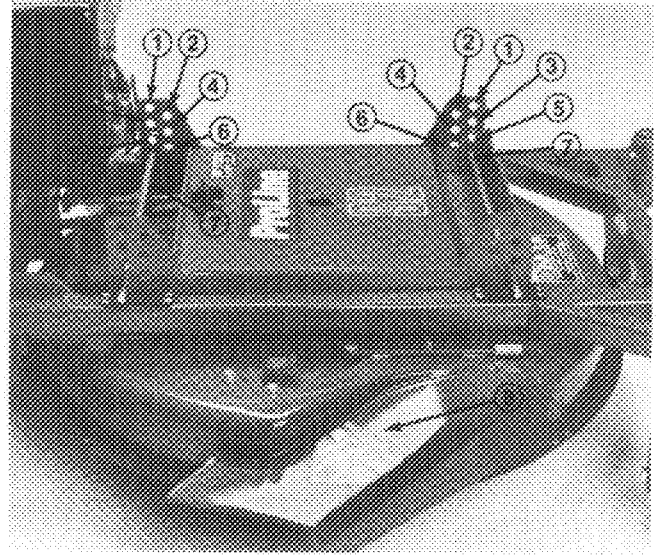

Figure 5
The height-of-cut is adjustable from 1 to 4 inches (25 to 102 mm) in 1/2 inch (13 mm) increments by relocating support rods in different hole locations in brackets at each corner of the cutting unit (Fig. 5).
1. Remove (4) hair pin cotters securing support rods in brackets (Fig. 5).
The grass deflector (Fig. 5) is a safety device that diverts grass and other foreign objects being discharged downward. Without deflector mounted in place on the cutting unit and spring loaded hinges holding deflector is down position, the blades could hurl grass and foreign objects out the discharge opening with enough force to cause injury or property damage. If the grass deflector or spring hinges are worn, broken or damaged, repair or replace the affected part(s). Do not operate cutting unit without deflector or entire grass collector mounted on the cutting unit. Always be sure the deflector chute is in the lowest position.
1. Raise grass deflector (Fig. 5).
NEVER remove the grass deflector (Fig. 5) from the mower housing. If the discharge cover under the grass deflector is removed in order to side discharge or bag, the grass deflector routes discharged material down toward the turf. If the deflector is ever damaged, replace it. Without the deflector, discharge cover or complete grass catcher assembly mounted in place, discharged material could cause personal injury or blade contact could occur.